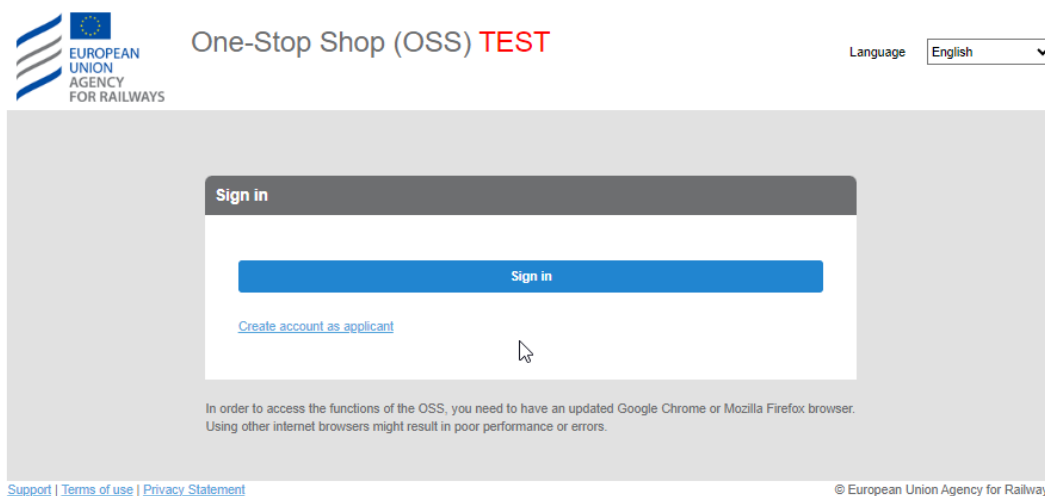

Figure 4: Sign in - OSS
Only registered users are able to sign into the system. In the landing page of the OSS shown in Figure 4 click on the “Sign in” button. The user may select an alternative language for the User Interface (UI) than the English (default), by choosing one of the available languages as are found in the “Language” drop down list.